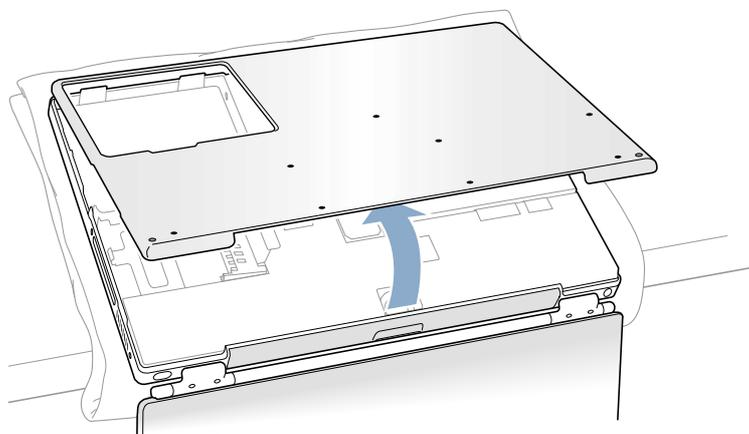

Figure 6
10. When both sides have released, lift up on the edge of the bottom case that is closest to you ; carefully and evenly pivot it over the front edge of the computer until it releases (**Figure 6**).